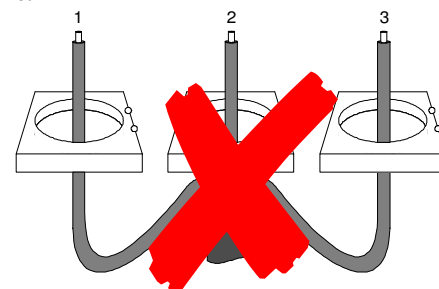

Fig. 3
2. **DO NOT** pass individual conductors through separate toroids, as shown in Fig. 3.